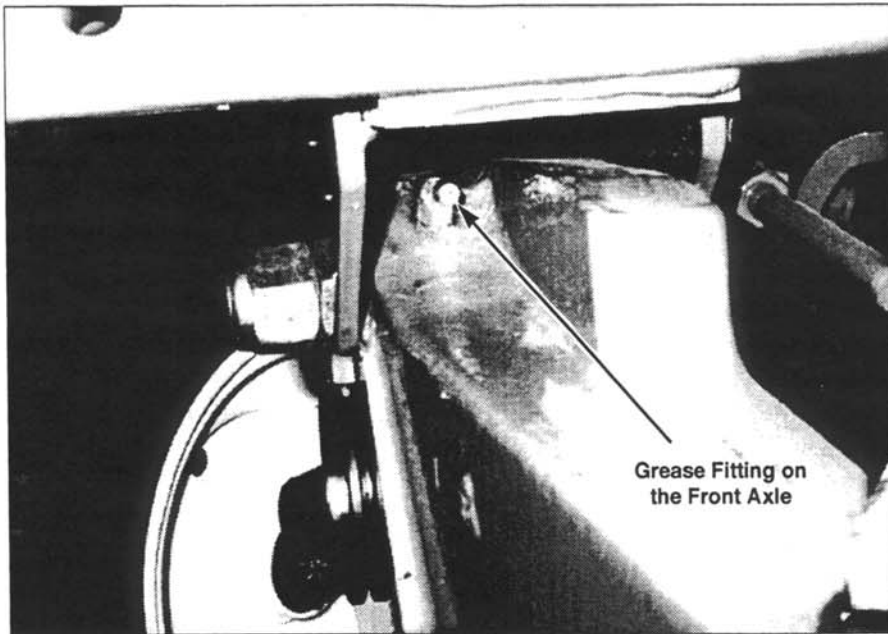

FIGURE 1
3. On the front axle as shown in Figure 1.